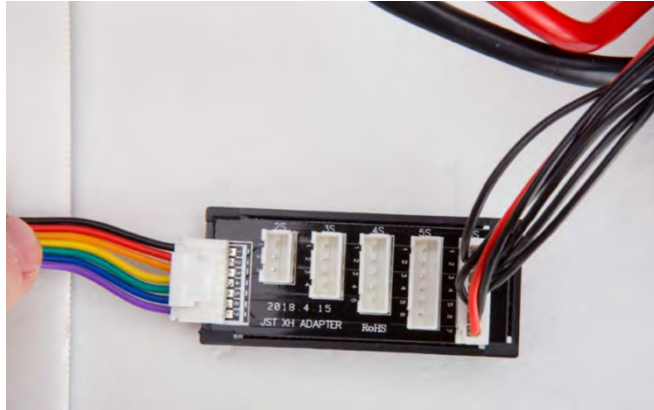

Figure 5: balance connector
- e. Connect the male balance connectors from the batteries to each charger's female balance connectors (Figure 5).